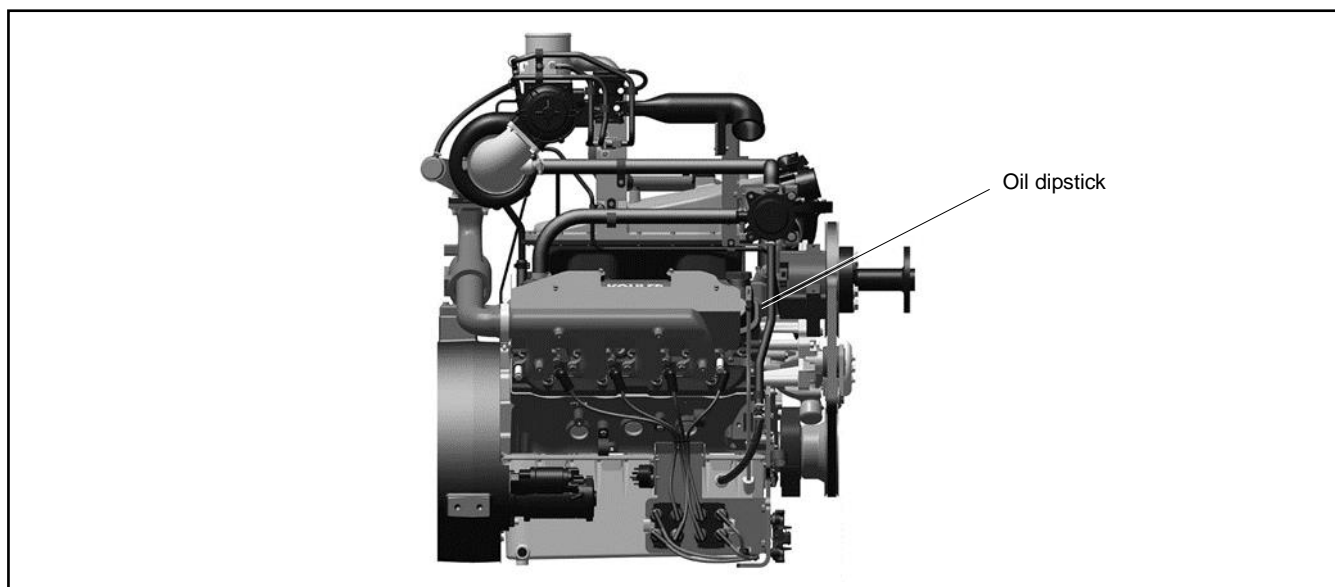

Figure 16 Oil Dipstick Location
2. Pull out the oil dipstick. See Figure 16.